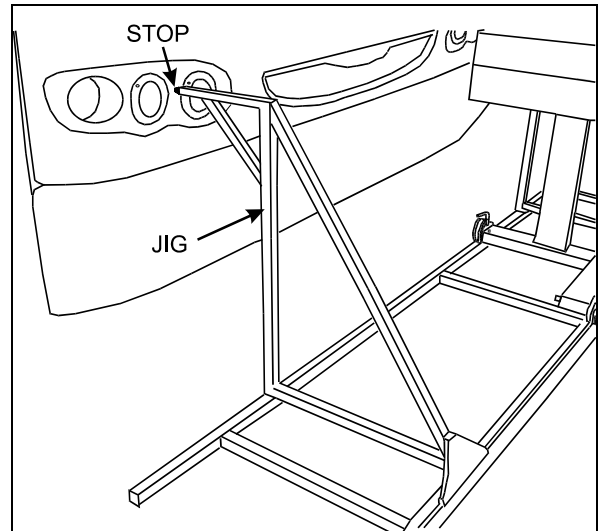

FIGURE 37: INSTALLATION OF JIGS
3. Install jigs #29263 and #29262 onto the support rail. Position the support rail so that both stops are centered between the two beams (Fig. 37). Mark the position for future reference.